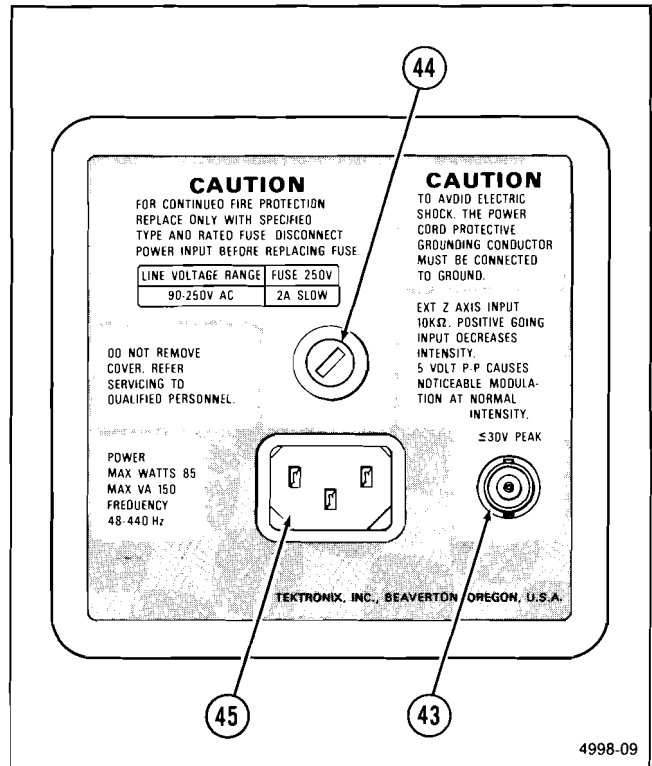

Figure 2-9. Rear Panel.
Refer to Figure 2-9 for location of items 43 through 45.